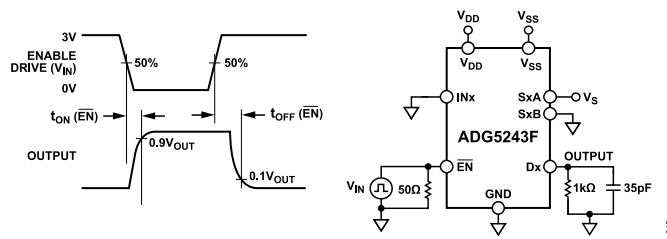

Figure 46. Enable Delay, $t_{ON}(\overline{EN})$, $t_{OFF}(\overline{EN})$
t_{ON} (EN) represents the delay between applying the digital control input and the output switching on (see Figure 46).
t_{OFF} (EN) represents the delay between applying the digital control input and the output switching off (see Figure 46).